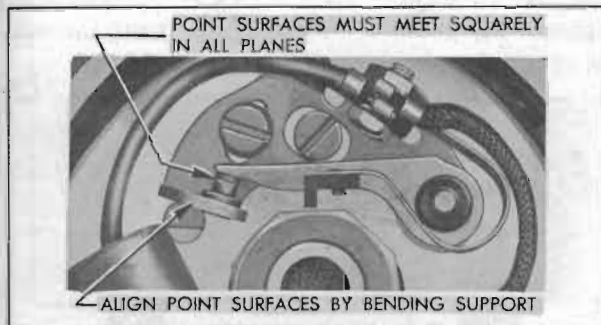

Figure 10-67—Contact Point Alignment
6. With points closed, inspect for square contact between mating surfaces of the two points. Carefully bend support, if necessary, to make points meet squarely. See figure 10-67.